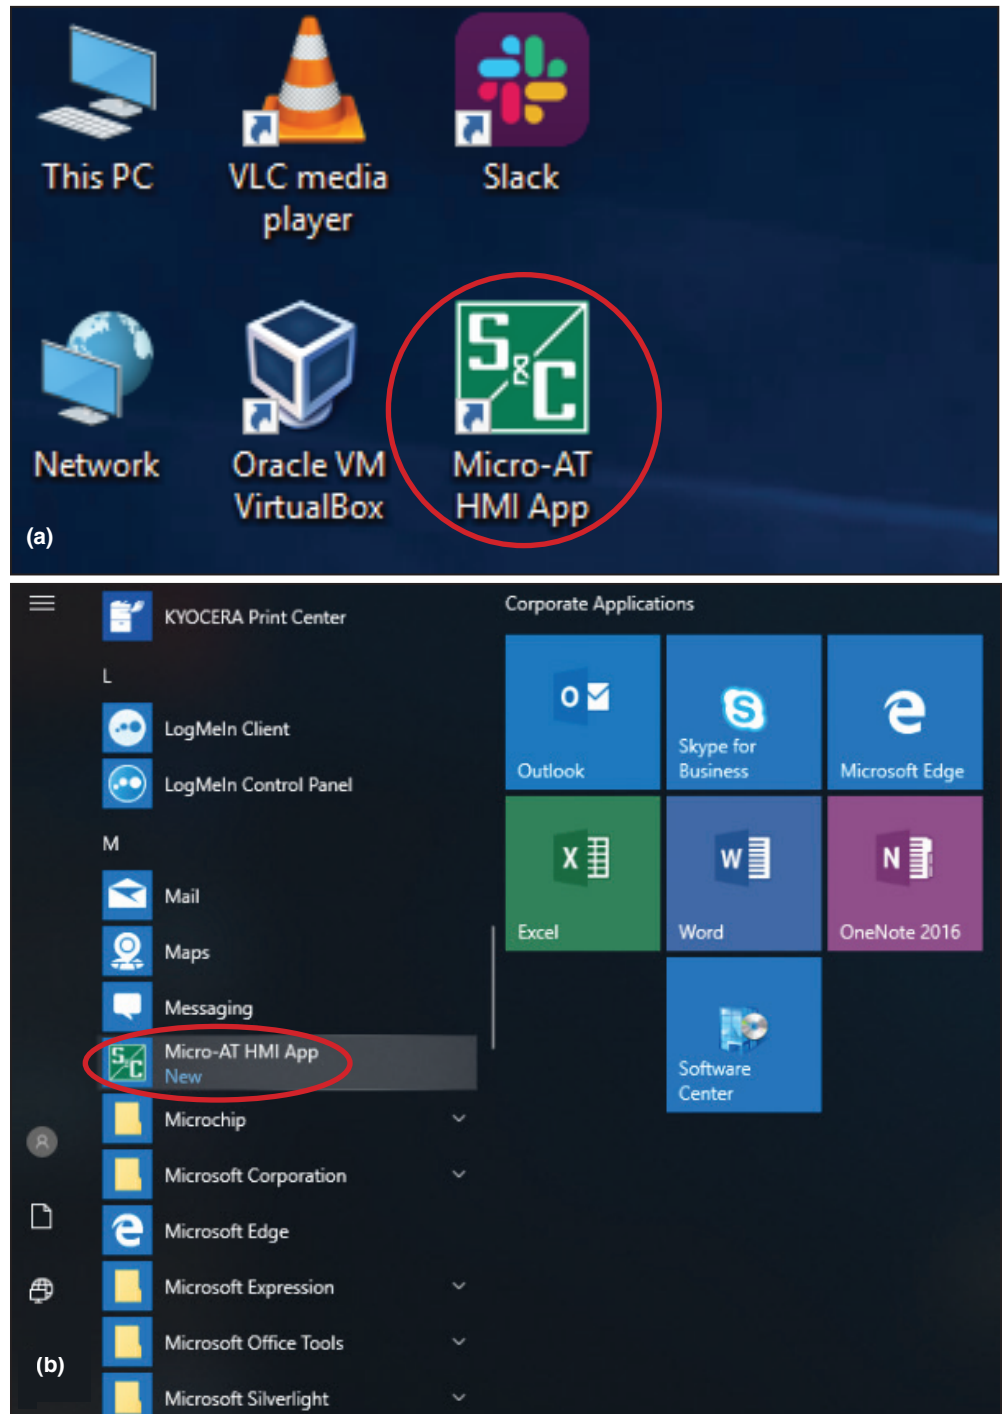

Figure 11. The HMI application.
STEP 6. Launch the Micro-AT control HMI application by double-clicking on the HMI application icon. See Figure 11(a). The application can also be launched from the list of programs under the Start menu. See Figure 11(b).